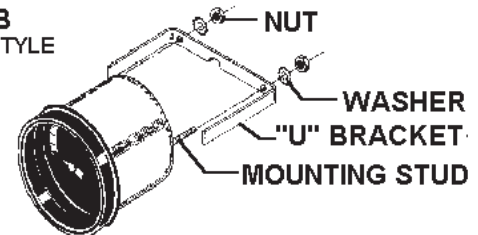
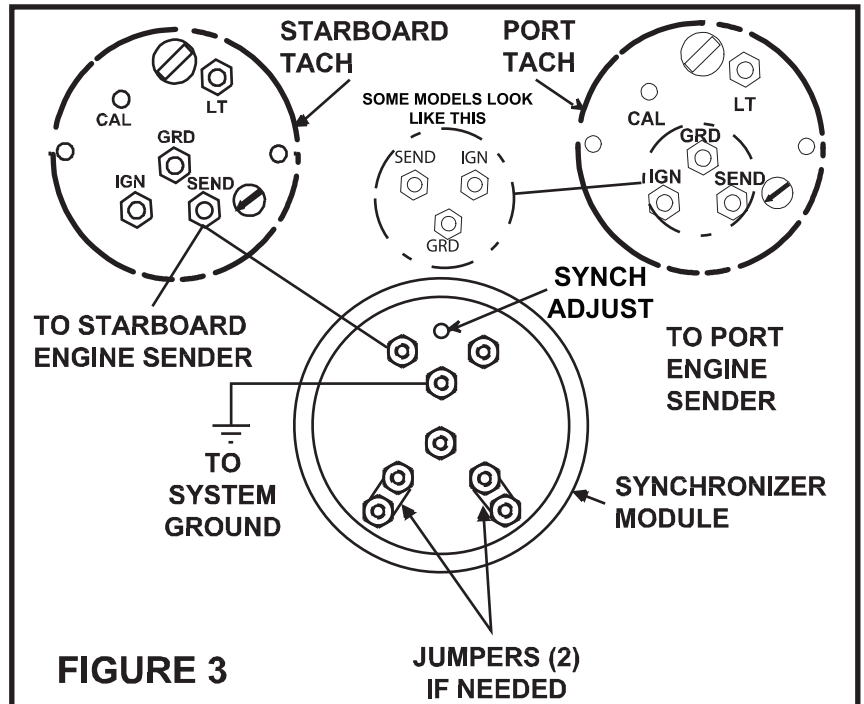

FIG.2A
FIGURE 3
1. Refer to Figure 2A through 2C and determine which style gauge you have. If you have the style shown in Fig. 2A, run a wire from "G" terminal of Gauge to "IGN" terminal of ignition switch.
4. Refer to Figure 3. Wiring shown will cause Gauge pointer (for types shown in Figures 2A and 2B) to move in direction of faster engine. Type shown in Figure 2C will move towards slower engine. If desired, this may be changed by reversing connections at Module.
The preferred method is to use a Module for each gauge. The alternative is to use one Module, and wire the Gauges in parallel - that is, IGN to IGN, PORT to PORT, STBD to STBD. In this case, the Jumpers (Figure 3) **MUST** remain in place.
2. The Gauge and Module are calibrated for extreme accuracy in detecting differences in engine speeds. In some cases, it may be necessary to decrease the sensitivity of the unit. Removal of the Jumper tabs (See Figure 3) on the Module will decrease sensitivity as shown on the Gauge. This means a greater difference of engine speeds will be required for an equal deflection of the Gauge pointer. If your application uses two Gauges from one Module, the Jumpers **must not be removed.**
3. In extremely rare cases, it may be necessary to calibrate the unit. Make sure both engines are running at the same speed. Temporarily remove the dust cover and insert a small bladed screwdriver in the calibration hole in the Module marked "SYNCH ADJUST" (See Figure 3). Rotate the adjustment screw in very small increments to change Gauge pointer deflection from either side of center. Do Not over-torque the adjustment or you will damage the Module.